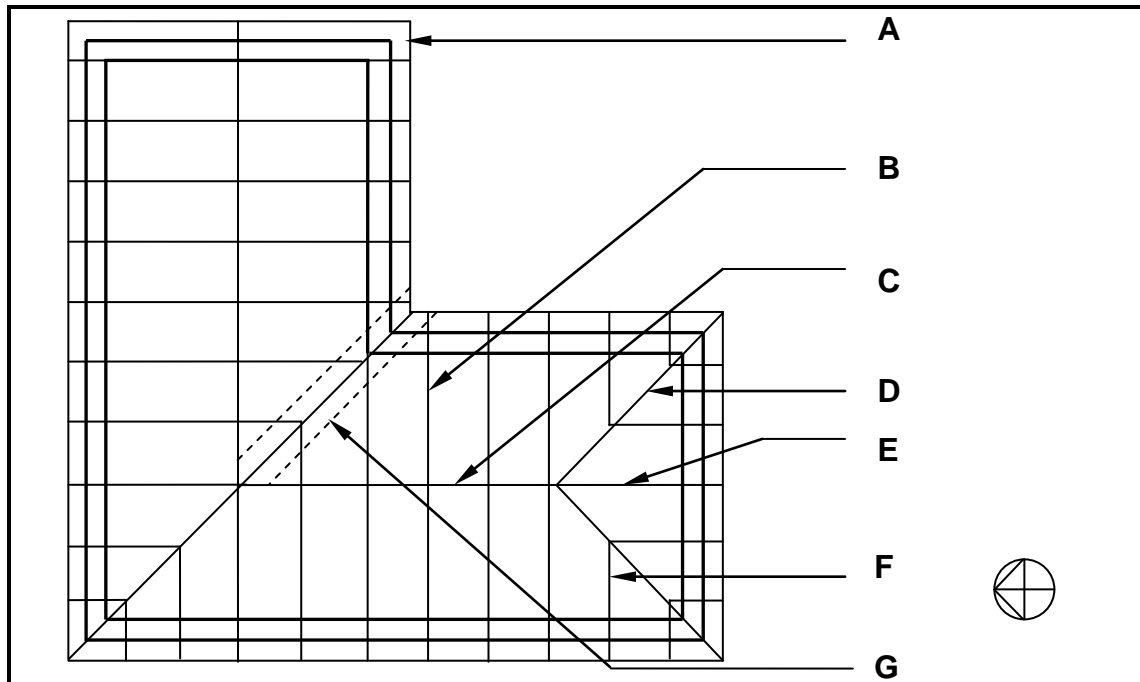

FIGURE 1.4
- 1.4 FIGURE 1.4 below shows the top view of a roof layout showing the roof trusses and the outer walls of an L-shaped building. Analyse the illustration and answer the questions that follow.